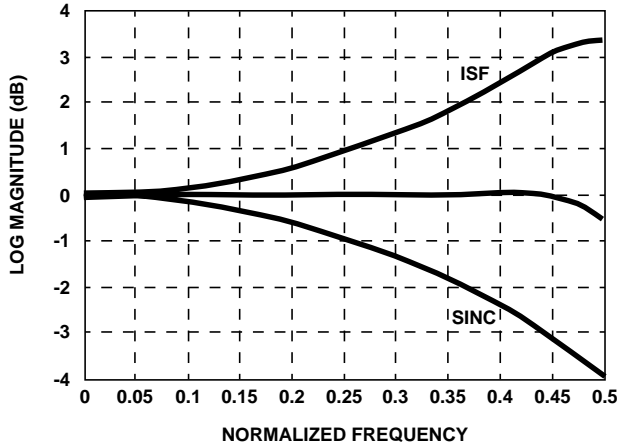

FIGURE 18. X/SIN(X) FILTER RESPONSE
The output is rounded to 16-bits. The output of the filter is not checked for saturation since the maximum sum of products is  $486/512$  (0.949) and overflow will never occur. The data exits the X/SIN(X) filters as a parallel I<15:0> and Q<15:0> data streams at the final sample rate. Figure 18 plots of the inverse sinc function, sinc function, and the effect of compensation.